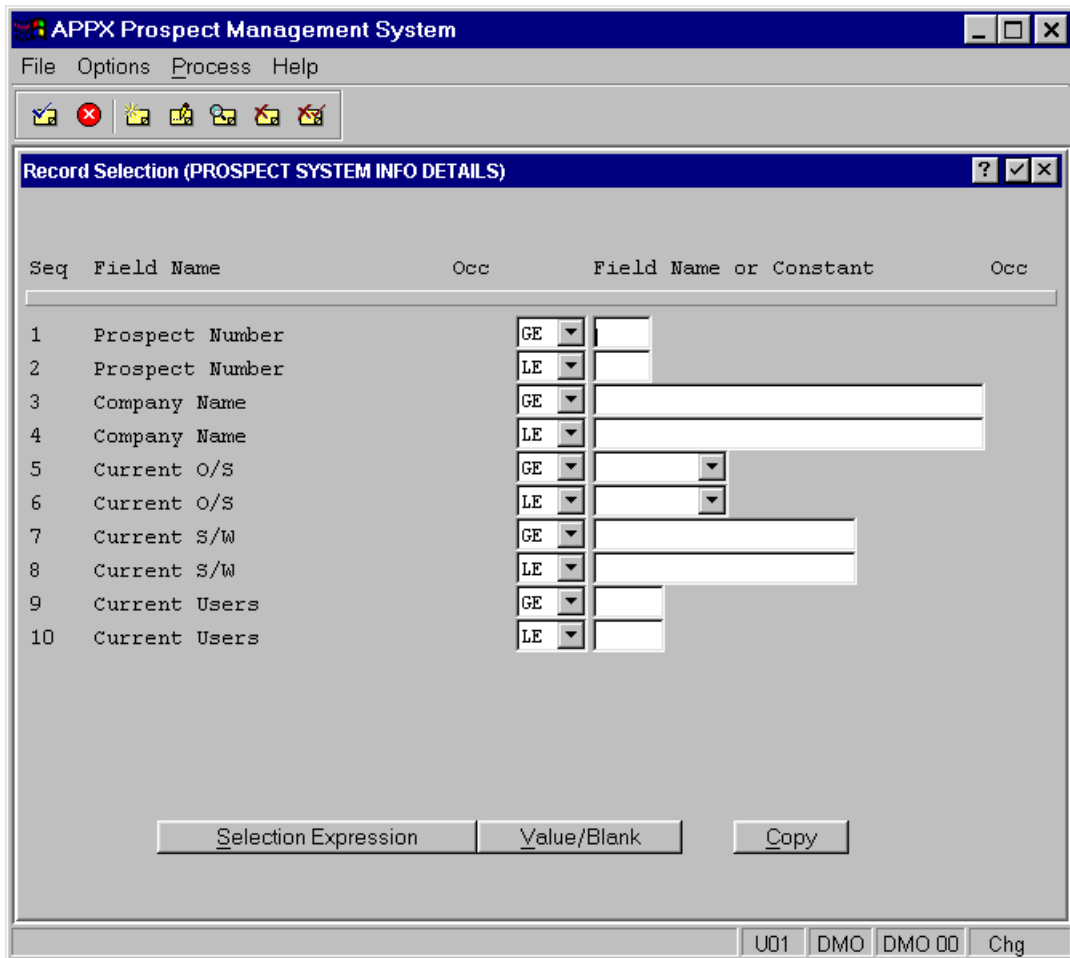

Figure E4.15 – Record Selection Screen
- The first screen that is presented is the **Record Selection** screen (*Figure E4.15*) where you can specify which records to include in the report. You can limit your record selection by Prospect Number, Company Name, Current Operating System, Current Software and Current Number of Users. You can limit your selection to ranges of any of the above and can change the operators to suit your requirements. Should you wish to specify a particular record then you can use the F2 key to scan the Prospect file when your cursor is positioned on the Field Name/Constant field to the right of the operator for either the Prospect No or Company Name (since both of these fields are keys to the PROSPECT file). Note that the Current O/S field has a button to the right, which you can use to select a valid operating system. The Copy button at the bottom of the Record Selection screen allows you to copy current selection criteria (and modify them). Note that using the Copy option only changes the selection criteria for this occurrence of the report. When the report is run again, it will revert back to the original selection criteria.